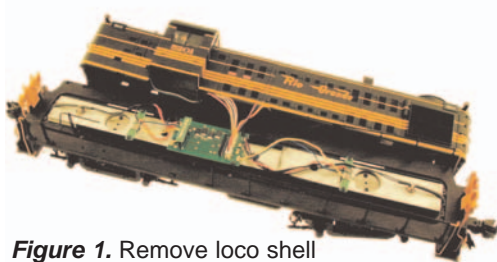

Figure 1. Remove loco shell
1. Remove the locomotive shell (*Figure 1*) being careful not to disconnect any of the existing wiring.